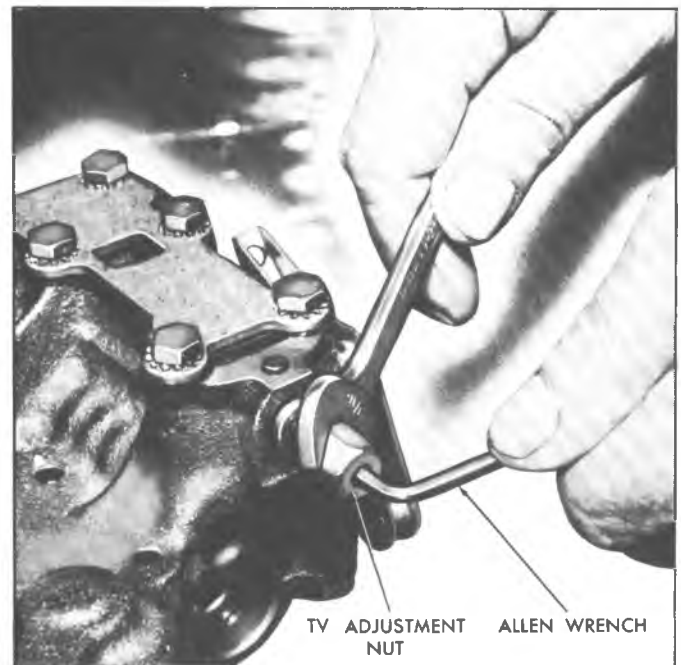

Fig. 36PG--TV Adjustment Nut
No provision is made for checking TV pressures. However, if operation of the transmission is such that some adjustment of the TV is indicated, pressures may be raised or lowered by adjusting the position of the jam nut on the throttle valve assembly (fig. 36PG). To raise TV pressure 3 psi, backoff the jam nut one (1) full turn. This increases the dimension from the jam nut to the throttle valve assembly stop. Conversely, tightening the